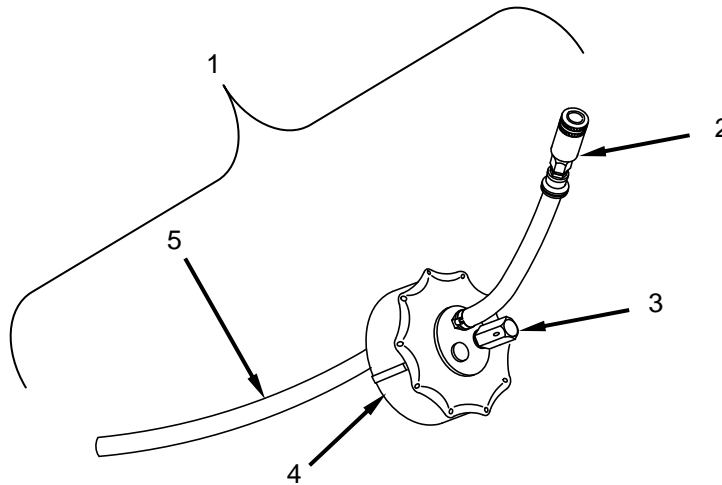

Figure 1. Inspect Fuel Adapter Cap.
1. Inspect the Fuel Can Adapter (Figure 1, Item 1) for any signs of damage or cracks.
2. Inspect the female quick disconnect (Figure 1, Item 2) and its attached hose for signs of damage or deterioration. Also check that the outer collar pulls back freely.
3. Inspect the relief valve (Figure 1, Item 3) for cleanliness and security. Older models have a manual relief valve; newer models have a self-venting relief valve. Ensure the valve is present and not clogged or dirty.
4. Inspect the seal under the cap (Figure 1, Item 4) to see if it is in place or shows signs of deterioration.
5. Inspect the pickup fuel hose (Figure 1, Item 5) for any signs of cracks or deterioration.